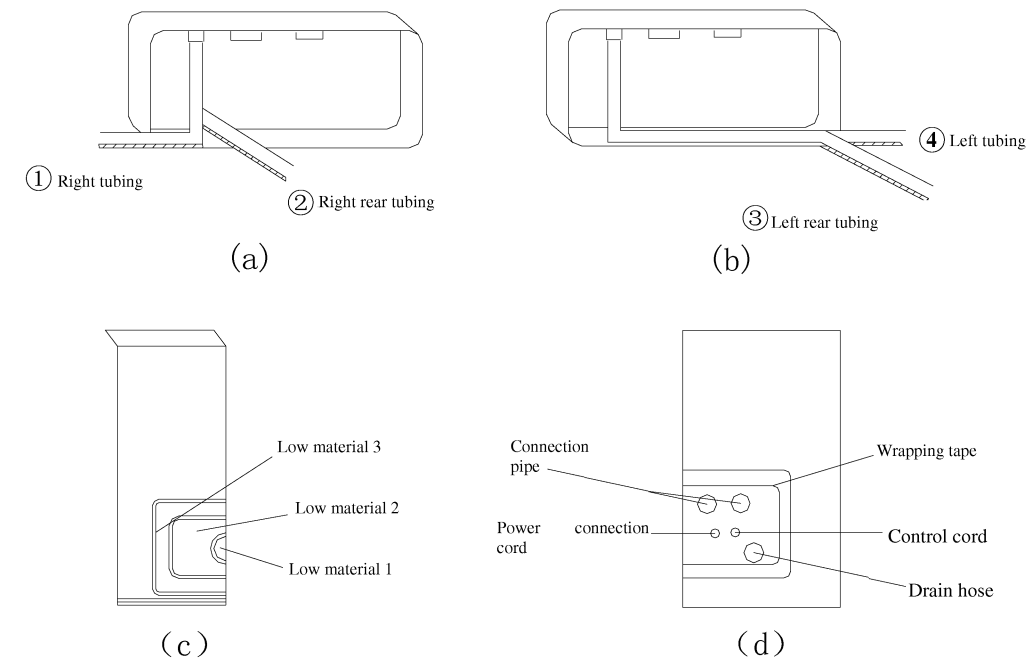

Fig.5
1. When routing the piping and wiring from the left or right side of the indoor unit, please refer to fig. 5 (a), (b), cut off the tailings from the pipe holder in necessary (shown in fig.5 (c) ).
- ☆ The pad wire type ①、②、③ are recommended.
2. Let the tubing and cord pass through the piping hole after tied up (refer to fig .5 (d)).